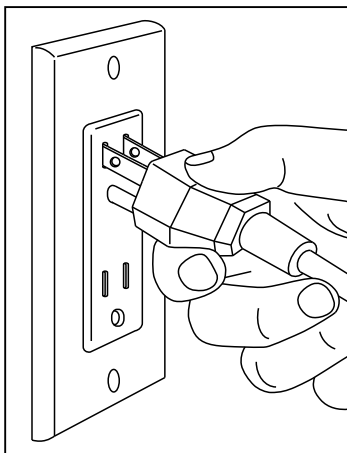

figure 1
1. Plug-in the sander's AC power cord to the power source (110Va.c. output). The warning "beep" sounds would be occurred after the plug is securely plug-in to the power source and the LED indicator shows "Solid Red" color at the moment. - see figure 1.